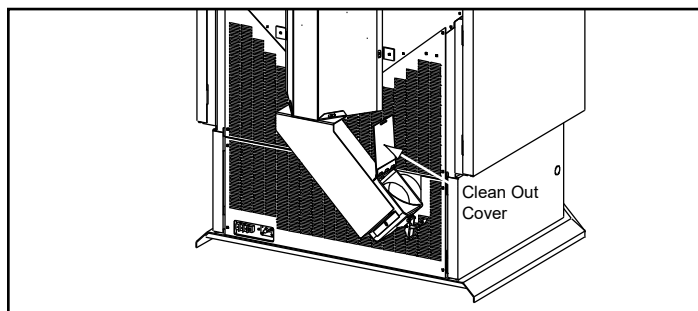

Figure 20.1
- b. Open the clean-out cover (**Figure 20.1**).